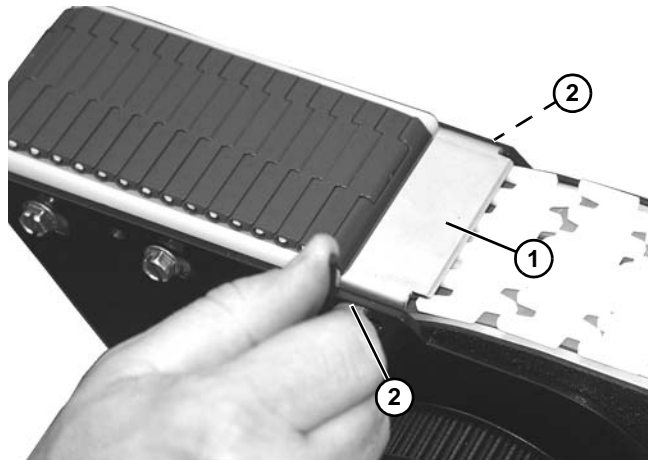

Figure 143
8. Install pinch guard (Figure 143, item 1) with two socket head screws (Figure 143, item 2).